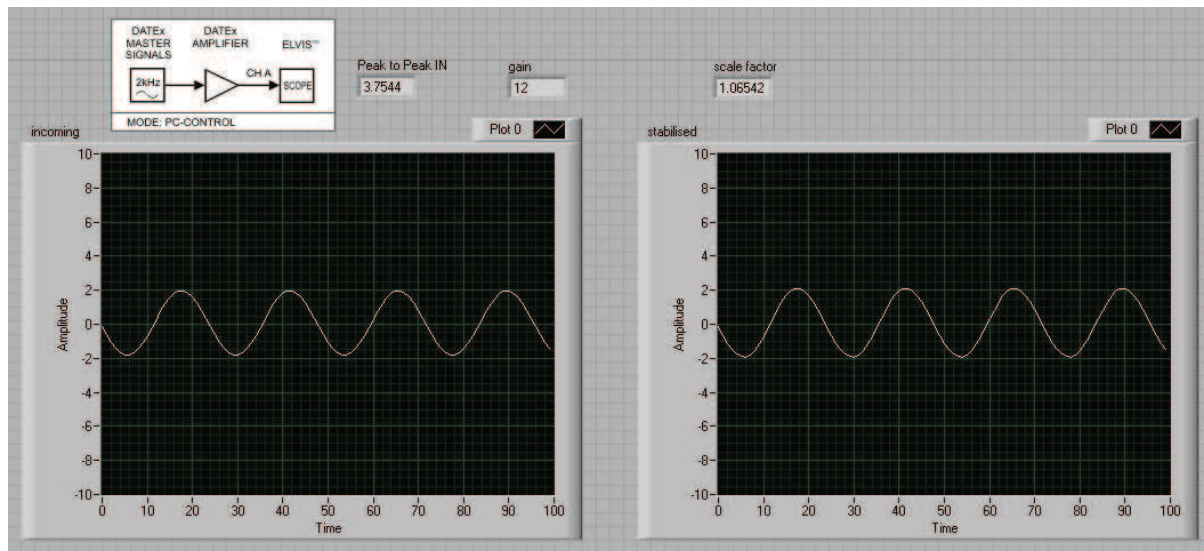

Figure 38: "gain control with amp.vi" front panel
1. Use patching cords to wire up DATEX blocks according to the wiring diagram in Figure 38.